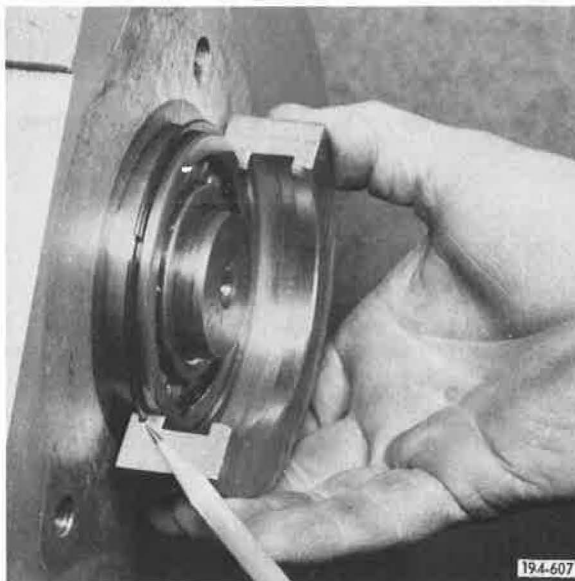

Figure 74. Installing First Clamping Half
15. Position the first clamping half of tool S593C to engage the snap ring, as shown in Figure 74. Note pencil pointing to snap ring and corresponding groove in tool.